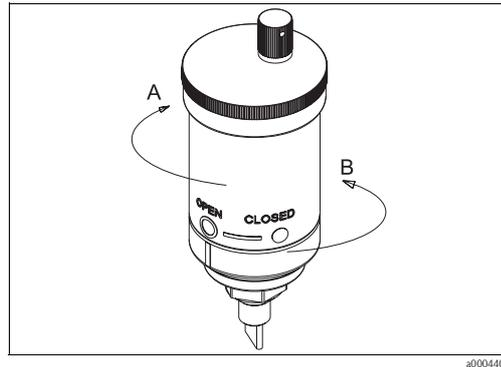

Fig. 13: Air vent in open position
1. Before filling the system, make sure the red vent cap is securely tight and that the valve is in the closed position (see Fig. 13) by turning vent body clockwise. Use hands only to avoid damaging the vent.
4. Start operation by turning the air vent body counter-clockwise to the open position (see Fig. 13).
1. Turn the vent body clockwise to the closed position, isolating the vent from the system (see Fig. 13).